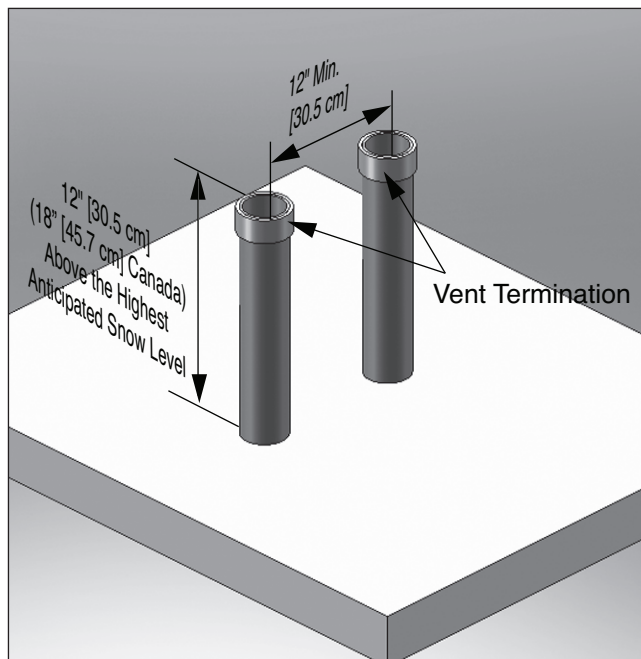

Fig. 16 - Category IV- Vertical Termination of Multiple Prestige Boilers
2. Each vent termination must be a minimum 12" [30.5 cm] from the adjacent termination for installations in the U.S. as shown in **Fig. 16 below**. For installations in Canada, provide clearances as required by CAN/CSA B149.1.